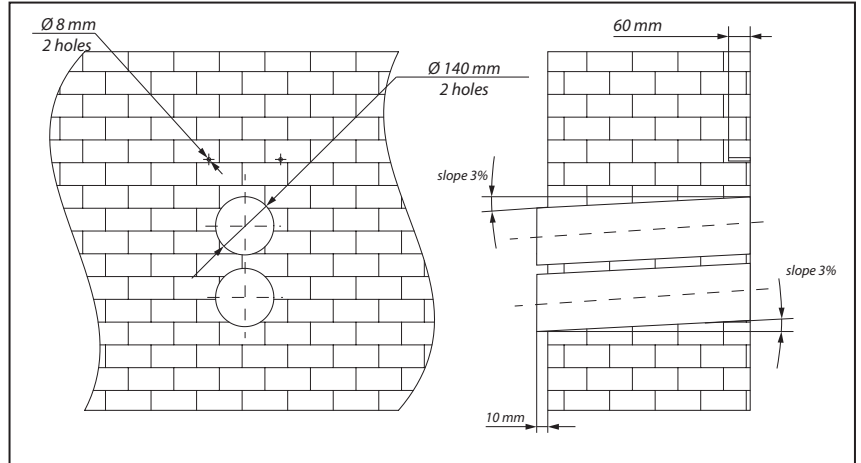

Fig. 6.
3. Remove the master plate and drill through holes sloped down by 2-3% for the air ducts and the holes for the dowels, 60 mm deep. Then insert the dowels from the delivery set. Fig. 6